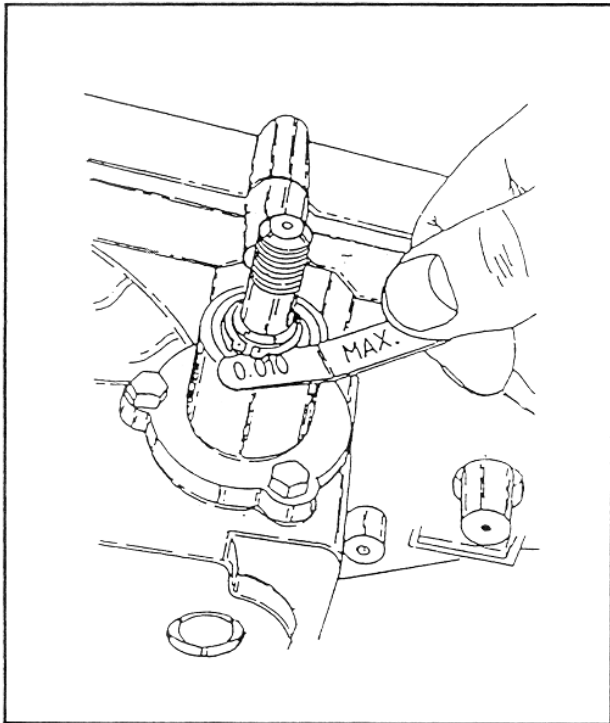

FIGURE 5
- 3.21 The washers (#28) under the retaining ring (#19) are factory selected. If any component has been replaced a new washer or washers must be selected. Check with feeler gage for a maximum .010 end play. See figure 5.